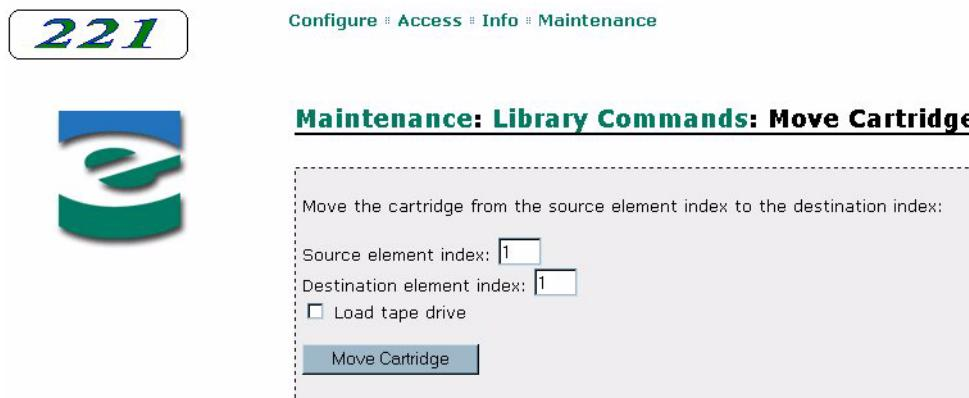

Figure 6-39 Remote management utility – Move Cartridge page
- Click on Move cartridge. A page similar to Figure 6-39 appears.